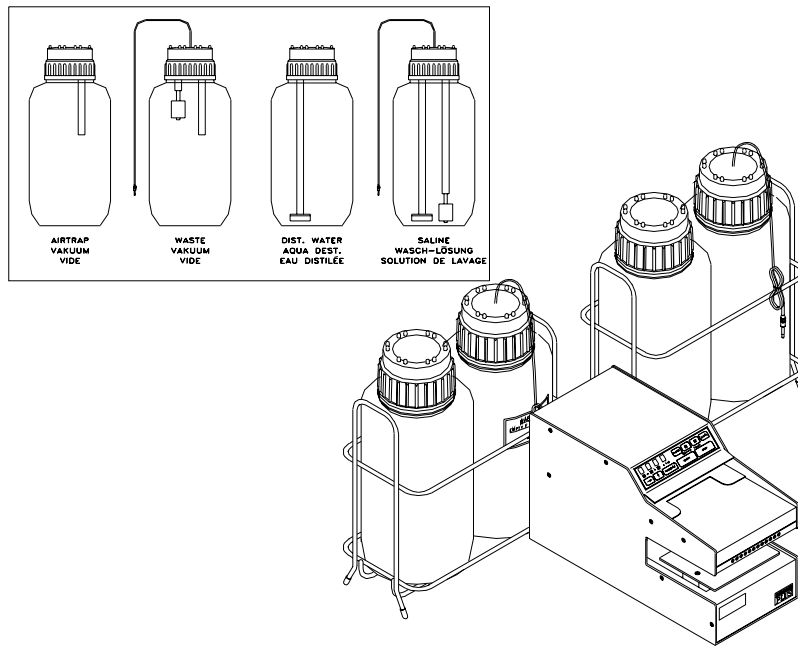

Figure 3: Bottle positions in rack
1. Place the vacuum, clean and wash bottles in the bottle rack in the order shown in Figure 3.
2. Place the Ultrawash PLUS primary unit on a firm level surface with the bottle rack assembly to the rear of the unit, ensuring that the bottles are correctly located in the bottle rack (Figure 3).
- a) Take the tubing labelled **V** and connect to the connector marked **V** on the pump unit as shown in Figure 3.
- b) Take the tubing labelled **P** and connect to the connector marked **P** on the pump unit as shown in Figure 3.